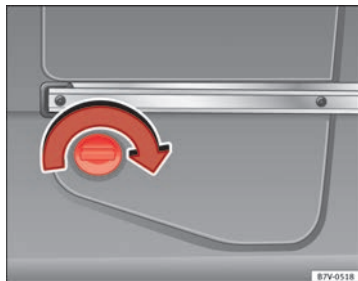

Fig. 167 At the rear left of the luggage compartment: AdBlue tank, behind a cover panel
- Rotate the shut off on the cover clockwise ⇒ Fig. 167 and open the cover forwards.